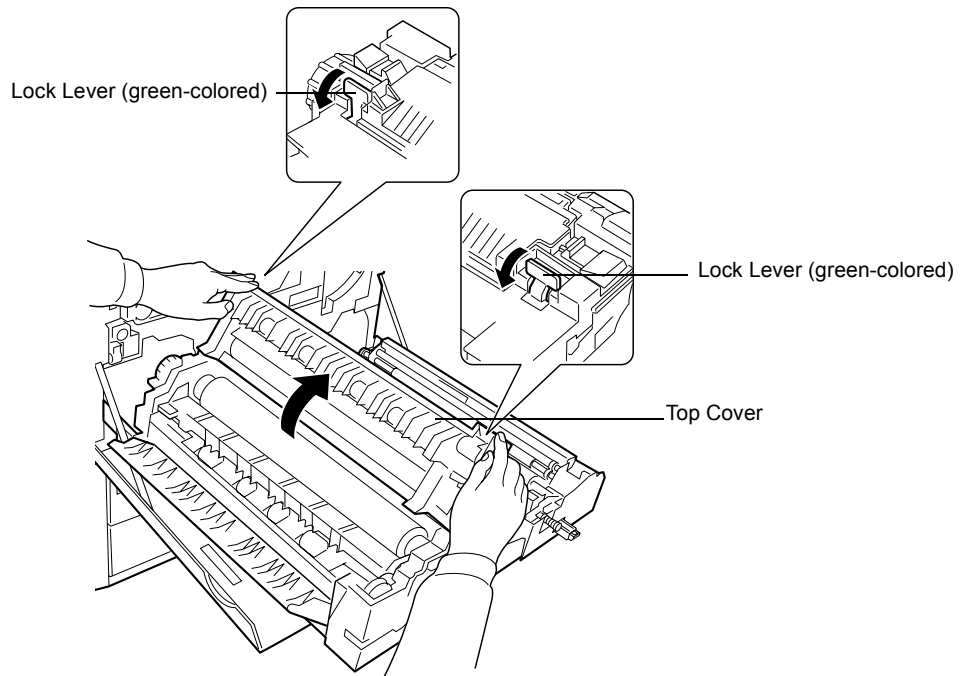

Figure 5-11
- 13** Push the fuser unit back in and close the top cover. To close the cover, be sure to pull the left and right lock levers (the lock levers are green) toward you. See Figure 5-11 on page 5-20. The top cover cannot be closed properly if you skip this.